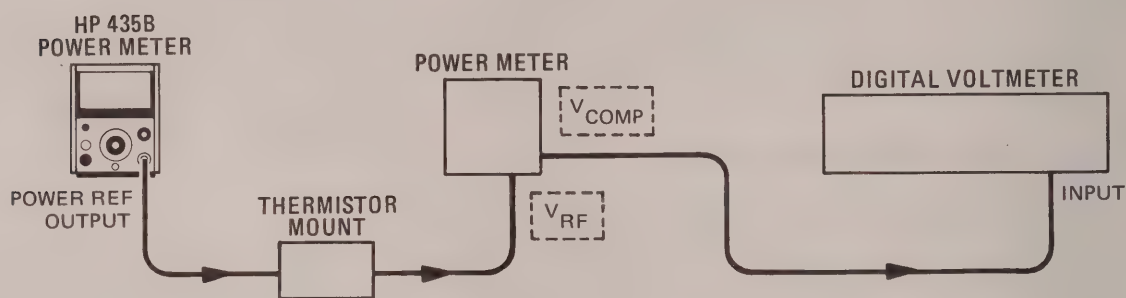

Figure 4-1. Power Reference Level Test Setup
3. Connect 432A to the Power Meter as shown in Figure 4-1.